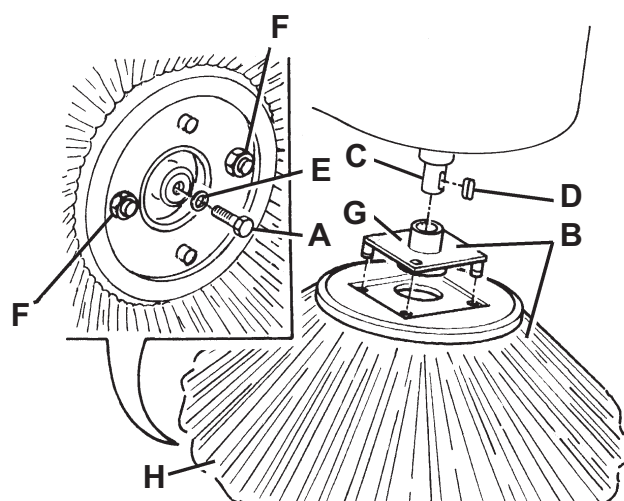

Figure 8
2. Turn the ignition switch (72) to "0" position.
3. Remove the screw (A, Fig. 8) inside the side broom, then remove the broom and the hub (B) by disengaging it from the shaft (C). Recover the key (D) and the washer (E).
4. At the workbench, remove the two screws and nuts (F) and separate the broom (H) from the hub (G).
5. Install the new broom (H) on the hub (G) and tighten the screws and the nuts (F).
6. Reinstall the new broom and the hub (B) on the machine after seating the key (D). Reinstall the washer (E) and tighten the screw (A).